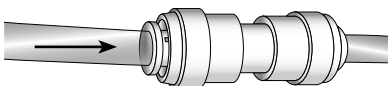

Figure 3
- Route a 1/4" Copper, Pex, or equivalent tubing from the water source and connect to the water inlet fitting on the unit as shown in Figure 3.